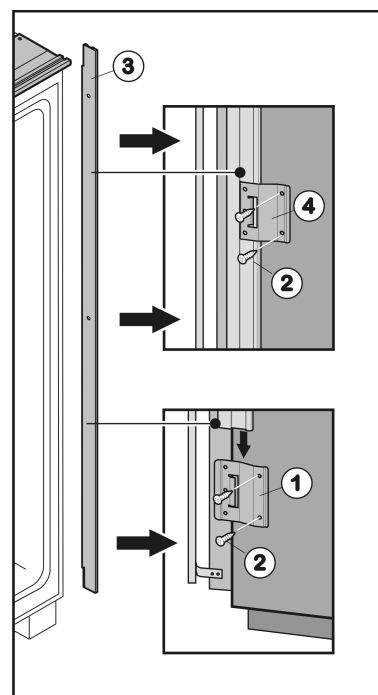
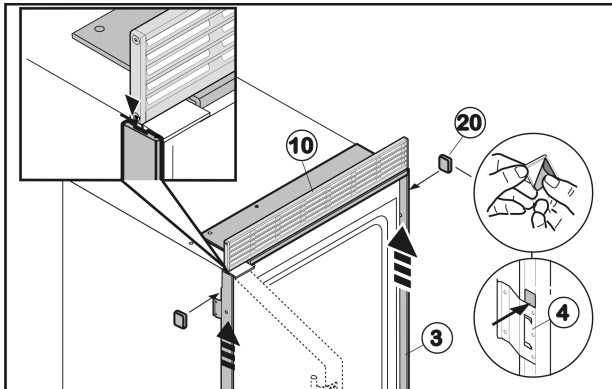
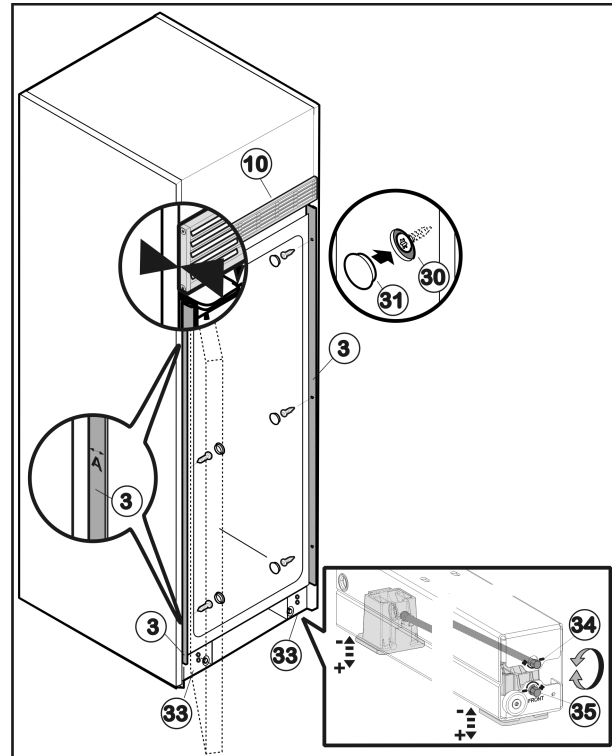

Fig. 32
Fig. 35
Fig. 36
- Fit retaining plate Fig. 32 (1) to the lower part of the handle side by inserting two screws Fig. 32 (2) into the pre-cut holes.
- Slide installation strip Fig. 32 (3) into the retaining plate Fig. 32 (1) from above.
- Push second retaining plate Fig. 32 (4) onto the installation strip Fig. 32 (3) from above and screw to the center of the side wall.
- Push third retaining plate Fig. 32 (4) onto the installation strip Fig. 32 (3) from above and screw to the top part of the side wall.
- Remove adhesive tape from the side installation strip *Fig. 35 (3)*.
- Push installation strip *Fig. 35 (3)* upwards until it is touching the ventilation grille *Fig. 35 (10)*.
- Glue the adhesive plates *Fig. 35 (20)* above the retaining plate *Fig. 32 (1)* and the retaining plates *Fig. 35 (4)* respectively to the installation strip *Fig. 35 (3)* such that it cannot slide downwards.
- Push the appliance into the recess until the rear edge of the ventilation grille *Fig. 36 (10)* is flush with the front edge of the side wall of the cabinet.
- Align appliance inside the recess above the roller bases *Fig. 36 (33)* using a spirit level: Use upper adjustment setting (1/4") *Fig. 36 (34)* for the rear adjustable foot and lower adjustment setting (1/4") *Fig. 36 (35)* for the front adjustable foot respectively. Turn clockwise to raise and counterclockwise to lower. Maximum adjustable height: 5/8 in (16 mm).
- At the top and bottom of the recess check the gap **A** between the front edge of the installation strip *Fig. 36 (3)* and the front edge of the side wall of the unit. It must be 1/2 " (13 mm). Realign the appliance in the recess if required.
- Secure appliance inside the recess using three screws *Fig. 36 (30)* on the handle side and the hinge side respectively. Do not scratch the side installation strip *Fig. 35 (3)* when doing so.
- Place cover caps *Fig. 36 (31)* over the screws.